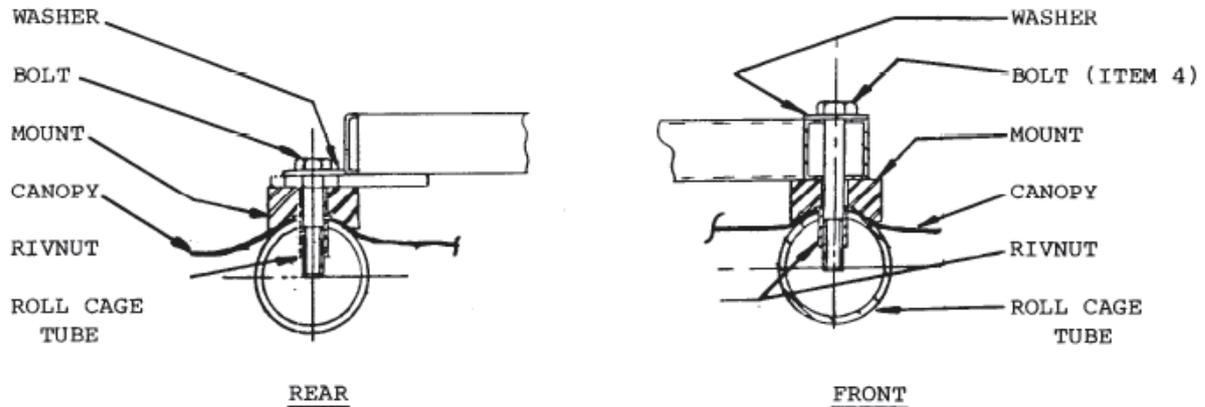

Figure 106 Location of Fixing Components (Using rivnuts)
- a. Position items 1 and 2 from Table 20 on the roll cage tubes (Figure106).
- b. Assemble item 3 from Table 20 onto items 4 and 5.
- c. Apply Loctite 242, NSN 8030-66-079-8891, to the threads of the bolts and fit the bolts (Figure106) ensuring item 4 (longer bolts) is fitted to the front roll tube.